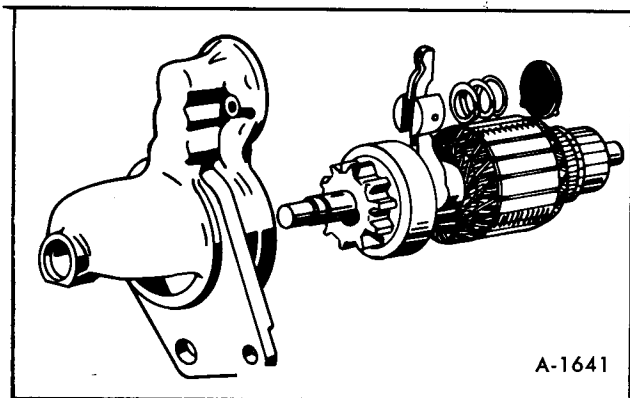

Figure 61—Removing Armature
4. Remove the armature from the front bracket. Simultaneously, the shift lever the lever spring and the spring holder will be removed (figure 61).